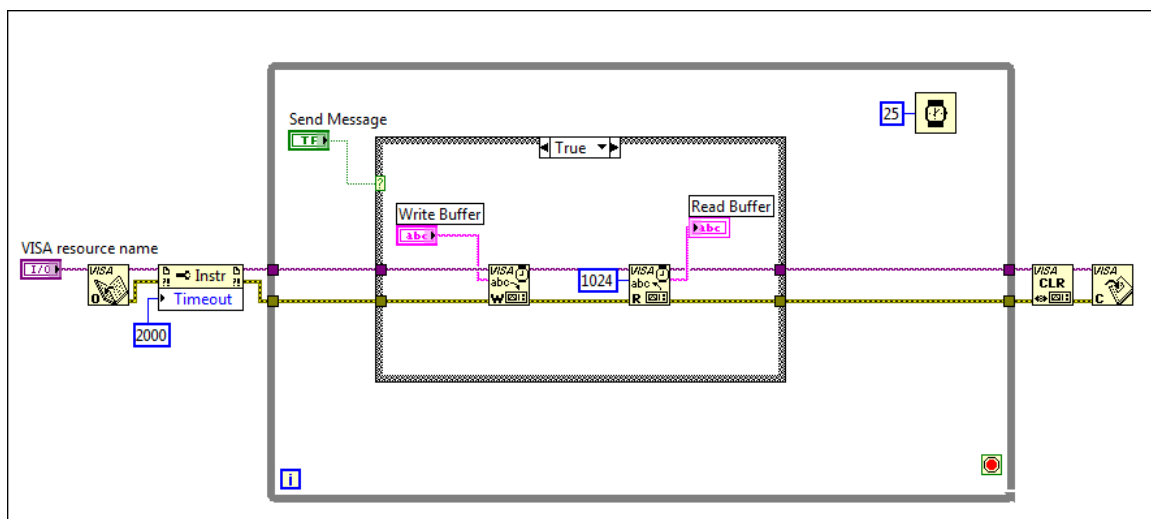

Figure 5. Block Diagram Wiring
12. Wire the VISA resource name terminals and the error terminals throughout the VI as seen in Figure 5. Remember to wire the resource name and errors through the False case of the Case structure as well.